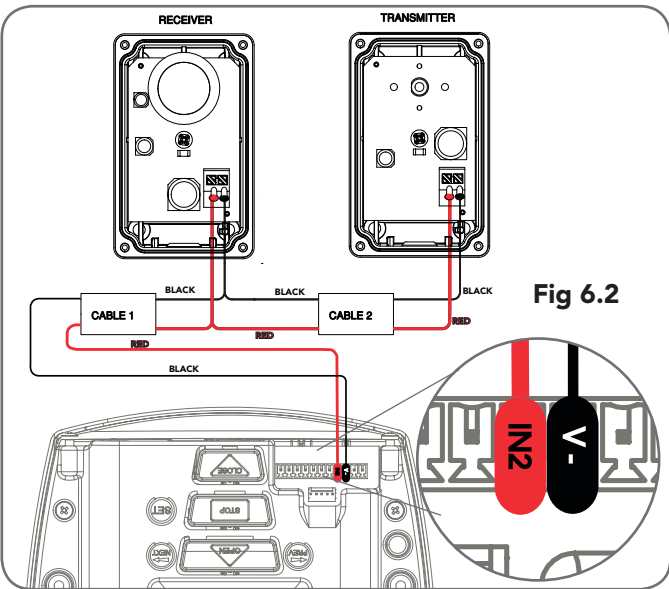

Fig 6.2
- i. By default the Axess® Pro Series 3000 will take two wire safety beams (connect one wire to IN2 input and the second wire to V-, next to the IN2 terminal (Fig. 6.2)).